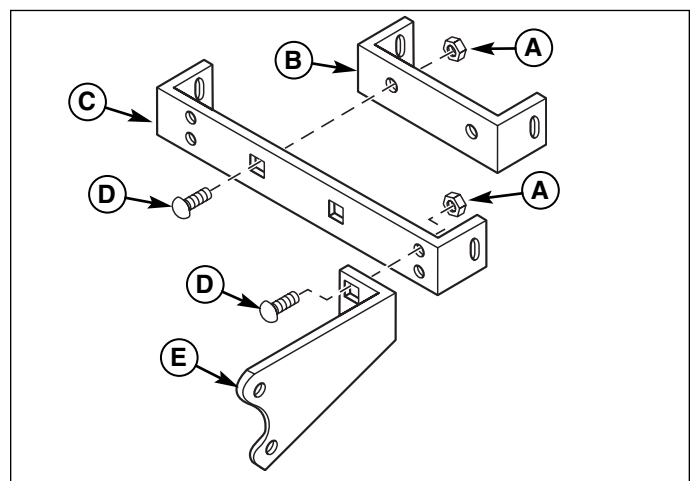

Figure 2. Hitch Installation
1. Connect the inner hitch (B, Figure 2) to the cross bar hitch (C) using 3/8-16 x 1-1/4 carriage bolts (D) and 3/8-16 locknuts (A).
2. Connect the cross bar hitch (C, Figure 2) to the side plates (E) using 3/8-16 x 1-1/4 carriage bolts (D) and 3/8-16 locknuts (A).